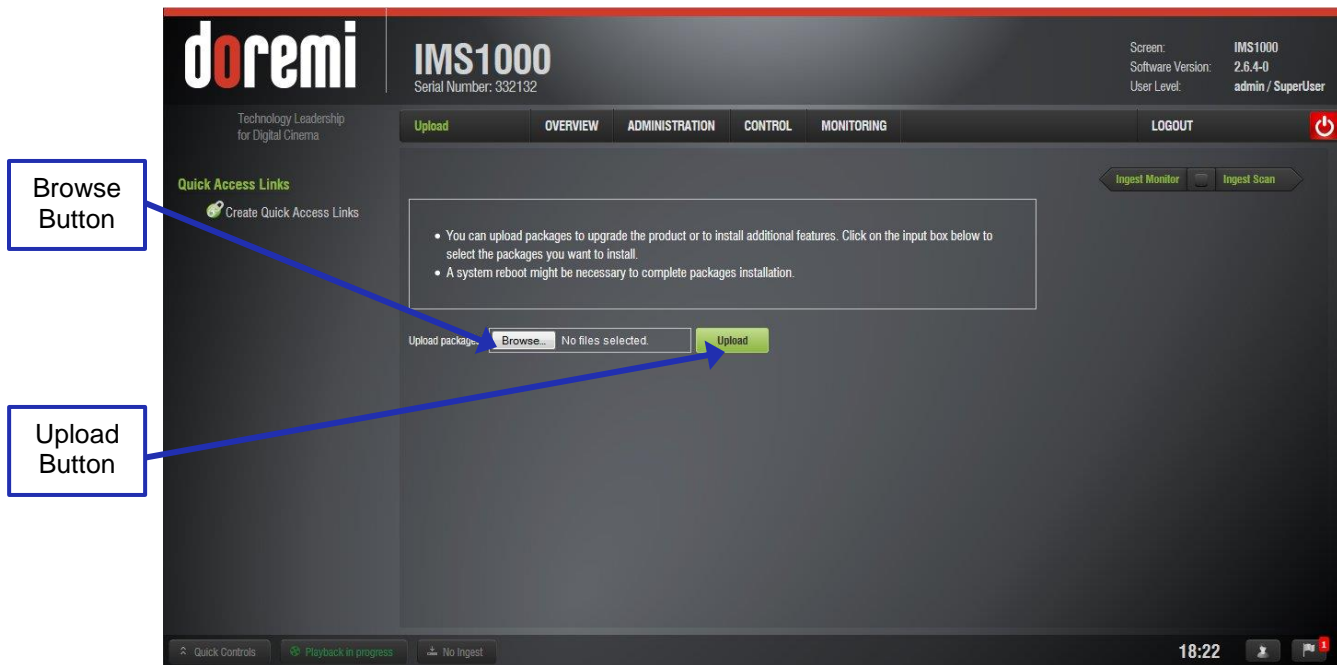

Figure 348: Ingest Upload
- Go to Control → Ingest Manager → Upload (Figure 348).
- Click the Browse button to locate the package to ingest (Figure 348).
- Click the Upload button when you have selected the file (Figure 348).